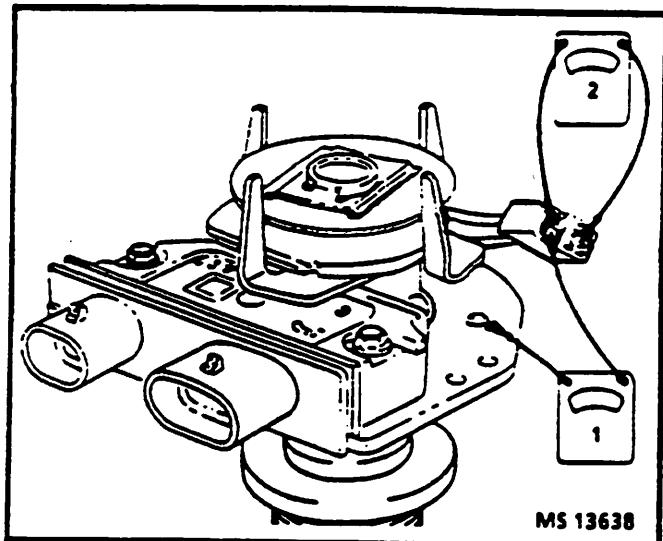

Figure 15 - Testing the Pickup Coil
- Connect an ohmmeter to either pickup coil lead and the housing as shown in Figure 15, Step 1. The reading should be infinite. If not, replace the coil.
- Connect an ohmmeter to both pickup coil leads as shown in Figure 15, Step 2. Flex the leads by hand at the coil and the connector to locate any intermittent opens. The ohmmeter should read a constant unchanging value in the 500 to 1500 ohm range. If not, replace the coil.